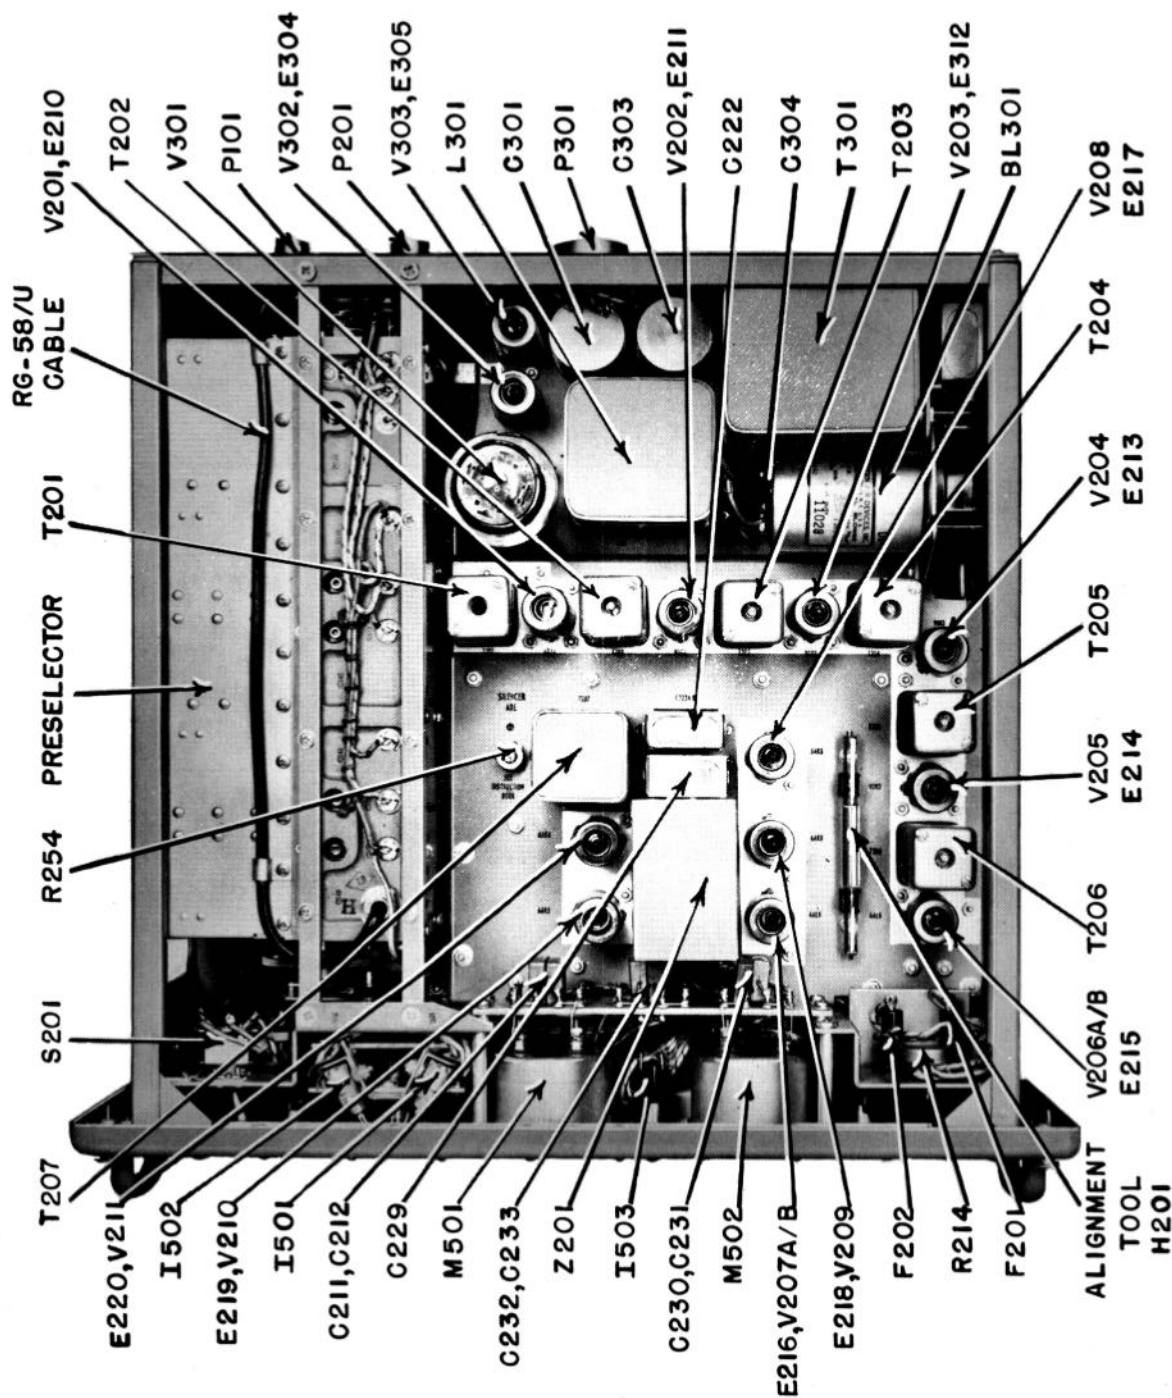

Figure 1-4. Top View of Chassis
b. FRONT PANEL AND CHASSIS FRAME ASSEMBLY—An aluminum frame, attached to the front panel, mounts the preselector, IF/AF and power supply chassis to form a complete chassis assembly. See figure 1-4. The panel is finished in a gray enamel which blends with the color of the cabinet and is fitted with handles to permit withdrawal of the panel-and-chassis assembly from the cabinet. A spring stop mechanism on each side permits nearly complete with-
c. PRESELECTOR SECTION. — The preselector section is mounted along the left side of the chassis frame, as shown in figures 1-4 and 1-5, and comprises all parts of the r-f amplifier-converter and oscillator-multiplier sections. The r-f amplifier section is above the oscillator-multiplier section, and each consists of an aluminum casting with removable covers. The two r-f amplifier stages and the mixer, or first detector, are mounted in the r-f amplifier-converter section. The basic oscillator, one frequency-doubler stage, a buffer amplifier stage and a frequency-tripler stage are mounted in the oscillator-multiplier section. Partitions in the castings provide r-f shielding between stages.
e. THE IF/AF SECTION.—The IF/AF section of the chassis is shown in figures 1-4, 2-6A and 2-6B. It is located on the right-hand side of the chassis frame, and mounts the circuit parts of the five i-f stages, the second detector, the automatic volume control circuit (AVC), the silencer and the silencer amplifier circuits, the noise limiter circuit and the three stages of audio amplification.
f. POWER SUPPLY SECTION.—The power supply section of the chassis, shown in figures 1-4 and 2-14, is mounted at the rear of the IF/AF section. It includes all the circuit parts necessary to provide the a-c and d-c voltages required for operation of the equipment from a source of 110/115/120 volt, 50-60 cps, single-phase power.